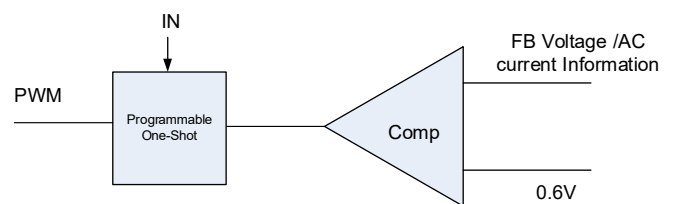

Figure 2. Simplified Control Schematic of AOZ1268AQI
The simplified control schematic is shown in Figure 2. The high-side switch on-time is determined solely by a one-shot whose pulse width can be programmed by one external resistor and is inversely proportional to input voltage (IN). The one-shot is triggered when the internal 0.6V is higher than the combined information of FB voltage and the AC current information of inductor, which is processed and obtained through the sensed lower-side MOSFET current once it turns-on. The added AC current information can help the stability of constant-on time control even with pure ceramic output capacitors, which have very low ESR. The AC current information has no DC offset, which does not cause offset with output load change, which is fundamentally different from other V^2 constant-on time control schemes.